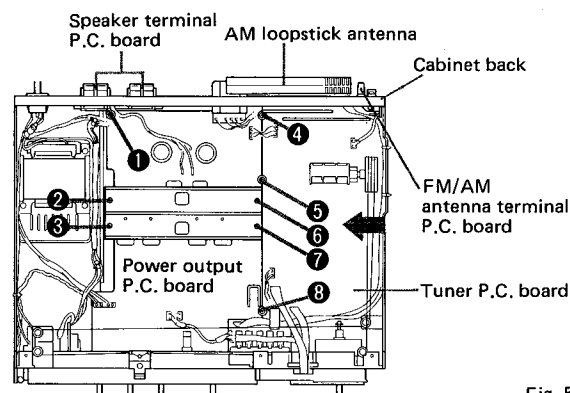

Fig. 5
7. Remove the screws ① to ⑧ in Fig. 5.
9. Remove the power output P.C. board backward, and remove the tuner P.C. board in the direction of an arrow shown in Fig. 5.